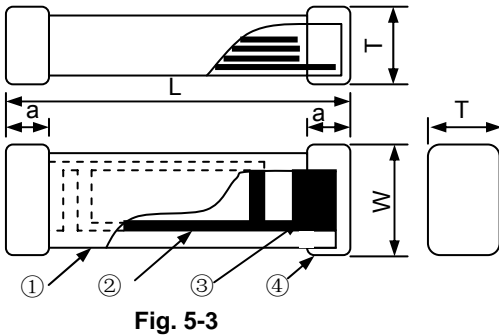
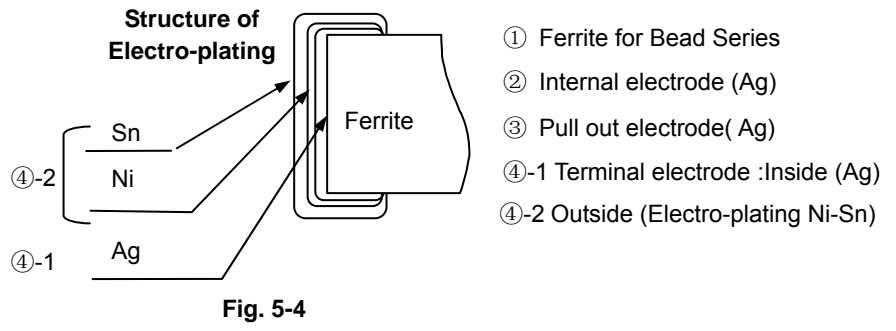

Fig. 5-3
Fig. 5-4
- 2) Structure: See Fig. 5-3 and Fig. 5-4